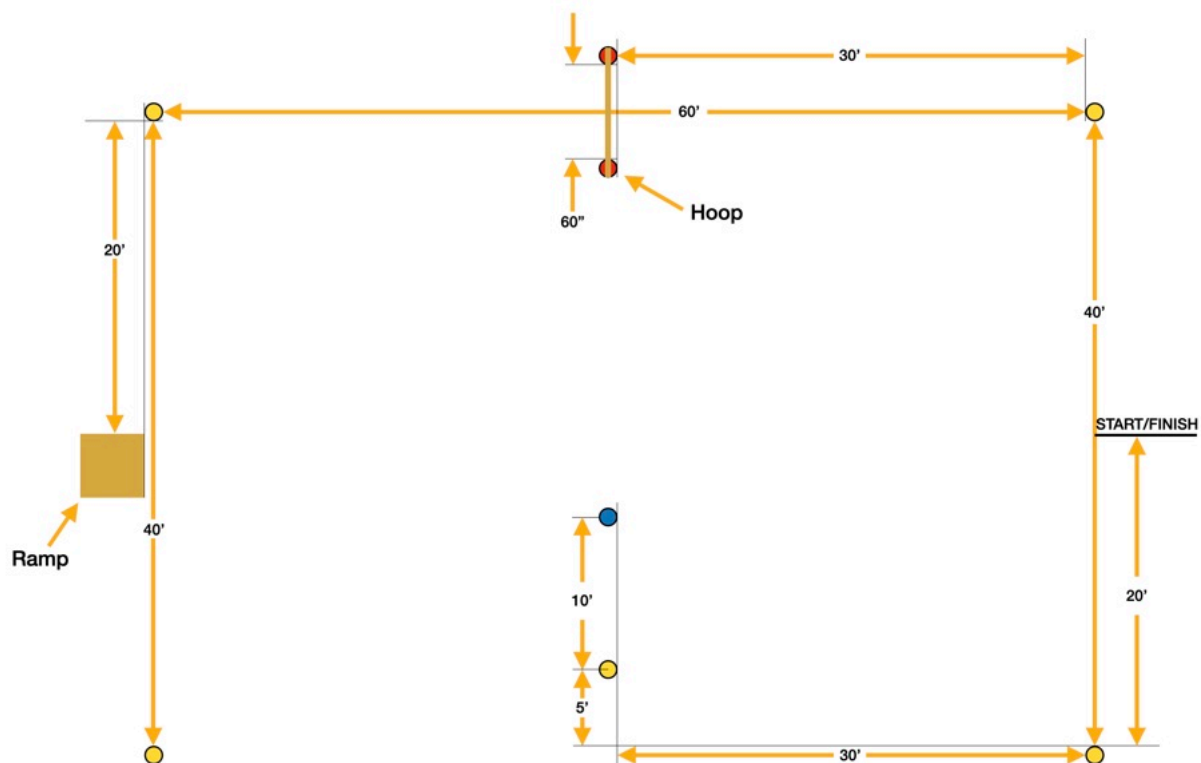

Figure 1: AVC Course Layout
7. Each vehicle must pass on the outside of stanchions in the course shown in Figure 1: AVC Course Layout. Blue stanchions will be placed on top of the blue corner dots shown, and yellow stanchions will be placed on the yellow dot. Final placements of stanchions and obstacles will be at the discretion of the judges.
15. During the competition, the course will be closed to both spectators and participants. Participants with vehicles currently running may follow within the inner perimeter of the course (Yellow lines in Figure 1) but may not be on the course with the vehicles when they are running.